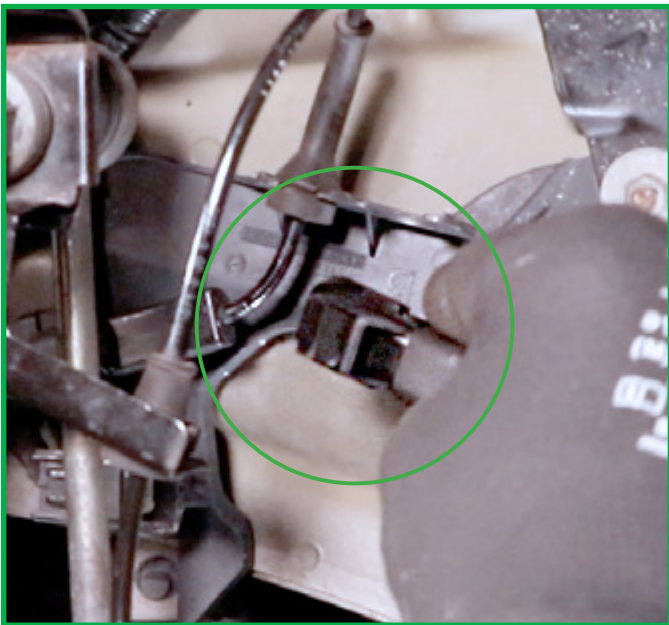

FIGURE 2
2. Disconnect electrical connection and unhook the wire from the retainer bracket. (Figures 2, 3)